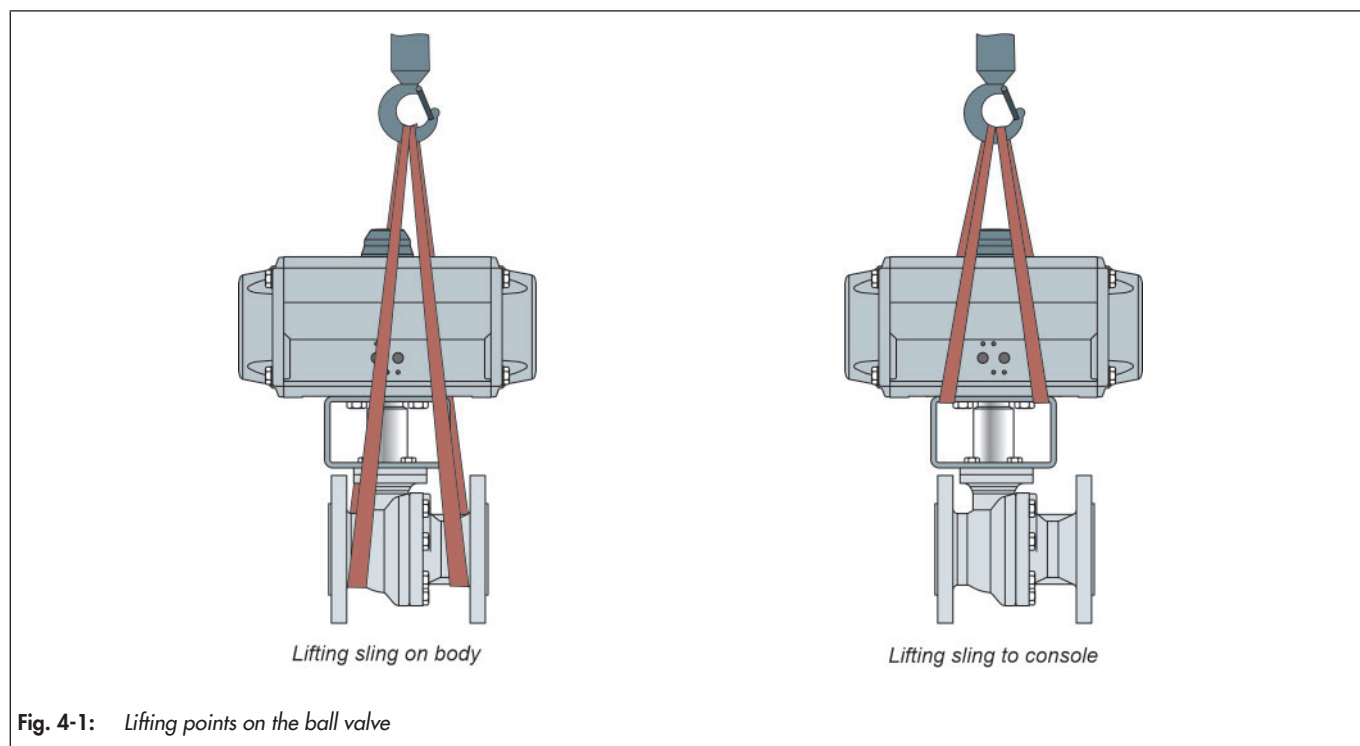

Fig. 4-1: Lifting points on the ball valve
- ⇒ Use a hook with a safety clamp as the suspension element so that the sling cannot slip off the hook during lifting and transport, see Fig. 4-1.
- ⇒ Fasten a lifting sling to each flange of the housing and on the suspension element (e.g. hook) of the crane or forklift, see Fig. 4-1. When doing so, ensure the safety, bearing capacity and length of the lifting slings
- ⇒ Fasten a lifting sling to the bracket and the suspension element (e.g. hook) of the crane or forklift, see Fig. 4-1. When doing so, ensure the safety, bearing capacity and length of the lifting slings.